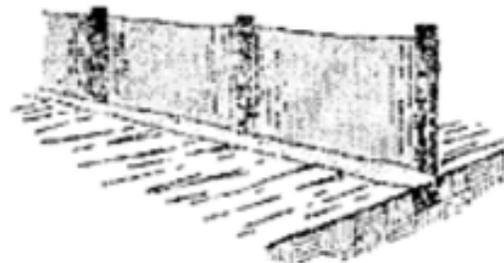

Figure 2: Constructing a silt fence to slow runoff and prevent erosion
Figure 2: French drains intercept surface water and increase soil stability. Deeper drains will intercept more ground water, but shallower drains are effective also and may cause less disturbance on the bluff. The maximum depth for French drains is 15 to 20 feet.
Rock should be placed around the outlet to prevent erosion at the bottom of the drain. Surface water and some ground water can be intercepted before it reaches the bluff by installing a "French drain"(Figure 2).
- Control erosion during construction by using temporary methods such as diversions to carry water away from the construction site to where it can be safely dispersed or silt fences or hay bales to trap sediments before they enter the water; a combination of methods may be the best solution (see Figures 2 and 3).